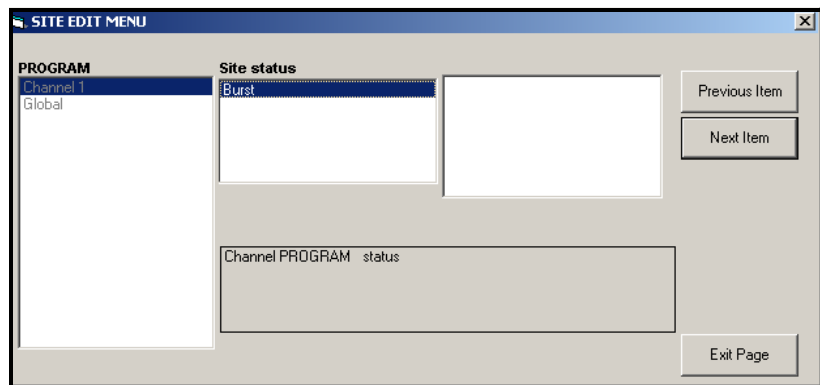

Figure C-13: The Status Option in the Channel Menu
2. Highlight and double-click on the Status option in the center pane. The window now appears similar to Figure C-13 below.